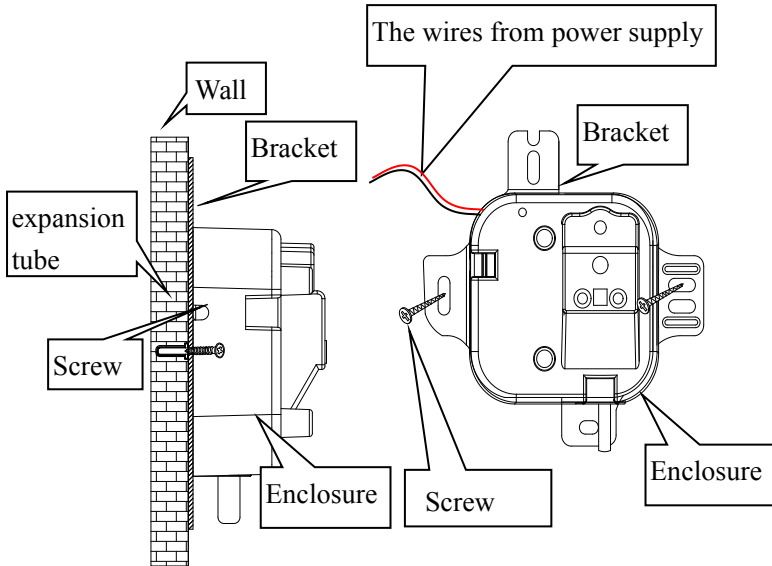

Figure5: Mounting the bracket and install bell
Step2: Attach mounting bracket to the wall (see figure5).